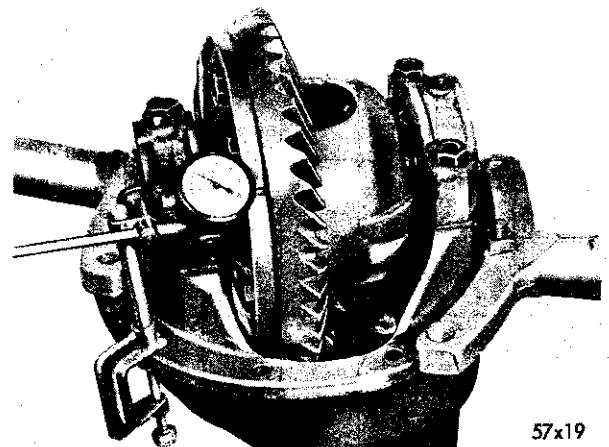

Fig. 7—Measuring the Drive Gear Runout
(1) Mount the carrier in Stand DD-1014 and attach the dial indicator Tool C-430 or Tool C-3339 to the differential carrier flange so the pointer of the indicator squarely contacts the back face of the ring gear (Fig. 7). Make certain there is no end play in the differential side bearings. If end play is evident, remove the adjuster lock and slightly loosen the bearing cap on the gear tooth side. Tighten the adjuster sufficiently to eliminate the end play.
(2) Rotate the drive gear several complete revolutions while noting the total indicator reading. This reading must not exceed .005 inch runout. If the indicator reading exceeds the .005 inch runout, it will be necessary to take a second reading after the drive gear has been removed. This operation is covered during "Differential Disassembly". Remove the dial indicator.